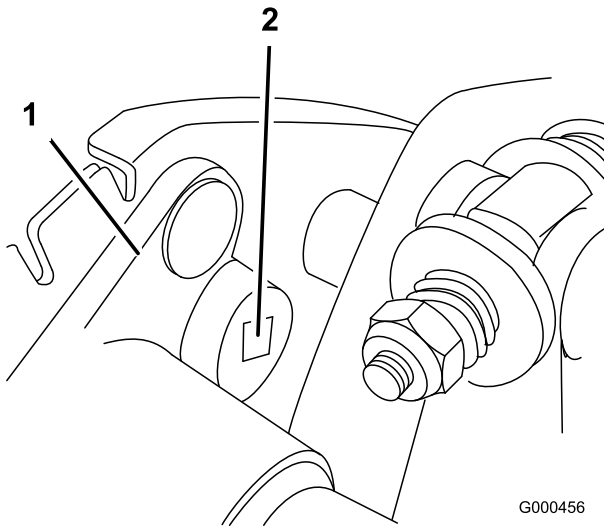

Figure 35
B. Using a 3/8 inch drive torque wrench, rotate the bearing housing with 35-40 in.-lb. of torque to set belt tension (Figure 35)